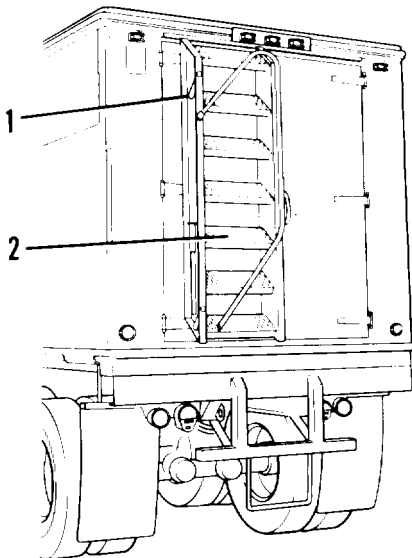

Figure 2-25. Removing ladder
- (1) Remove pins (1, figure 2-25) from ladder (2). Remove ladder (2) from semitrailer.